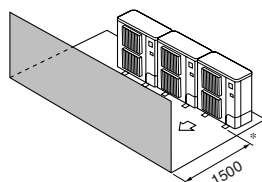

Fig. 2-10
- ③ Solo ostacoli anteriori (Fig. 2-10)